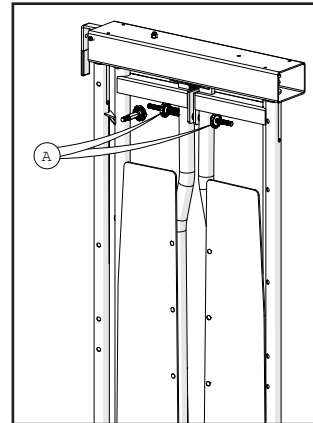

Figure 2: Neck opening adjustment
2. The neck opening can be adjusted by turning the aluminum knobs (a) on each door (Figure 2). The doors should be adjusted only if the animal size varies by more than 300 lbs.